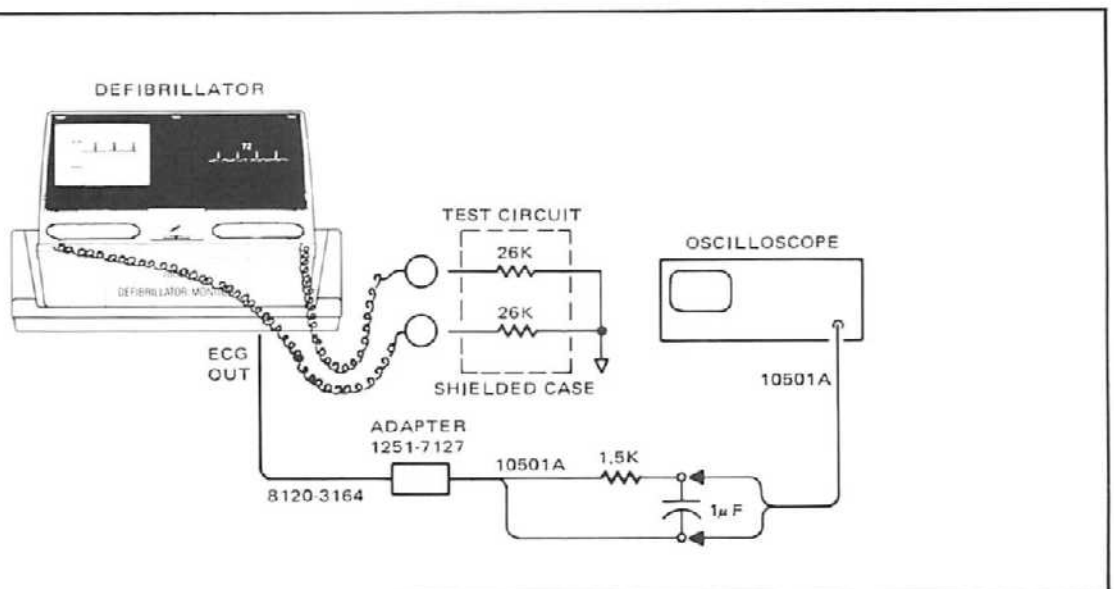

Figure 3-18. ECG Amplifier Noise, Paddle Input Test Setup.
2. Connect the equipment as shown in Figure 3-18. Put ECG source to paddles.